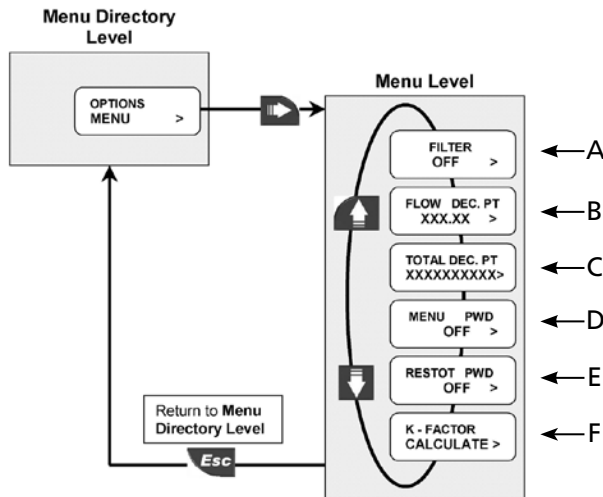

Figure 17 – Options Menu
1. To select the averaging level of LCD, output and relay response (see Figure 17, A).
2. To set the flow rate decimal point position (see Figure 17, B).
3. To set the totalizer decimal point position (see Figure 17, C).
4. To set ON or OFF password protection to enter Menu Levels (see Figure 17, D).
5. To set ON or OFF password protection to reset totalizer (see Figure 17, E).
6. To perform automatic calculation of K-Factor (see Figure 17, F).